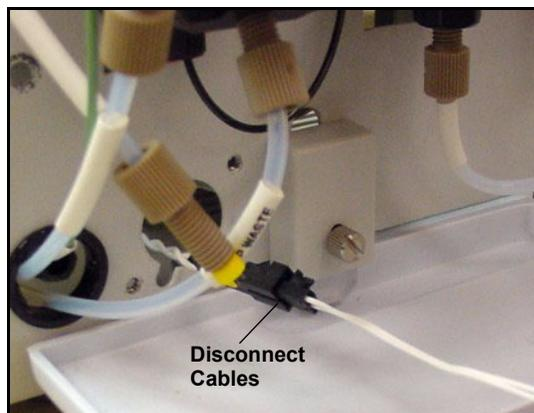

Figure 5-23. Eluent Valve Cable
7. The cable connects to a cable inside the ICS-1500. Continue pulling until the connectors for the two cables are outside the panel (see Figure 5-23). Disconnect the cables.